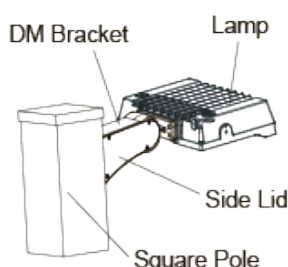

Figure 5.2
Step 2: Put the connected wire into the junction box, then cover the junction box. (Figure 5.2)